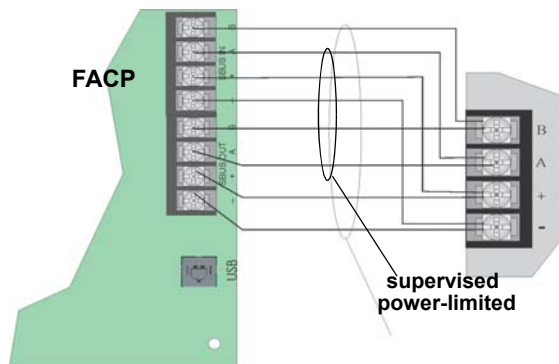

Figure 7 SBUS Connections
4. Wire the annunciator board to the main control panel. See Figure 7.
4. Connect the wires from the FIK-RA100 to the SBUS connectors on the FACP as shown in Figure 7.
Wire the FIK-RA100 to the FACP as shown in Figure 7.
3. Connect the FIK-RA100 to the panel (see Figure 7).